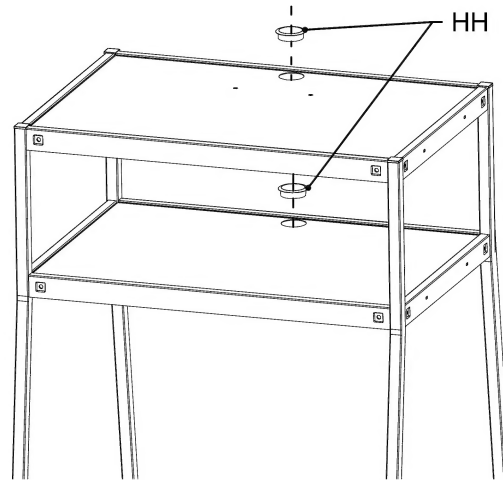

FIGURE 5
Insert the plastic grommet (HH) into the hole of top shelf and middle shelf as shown in **FIGURE 5**.